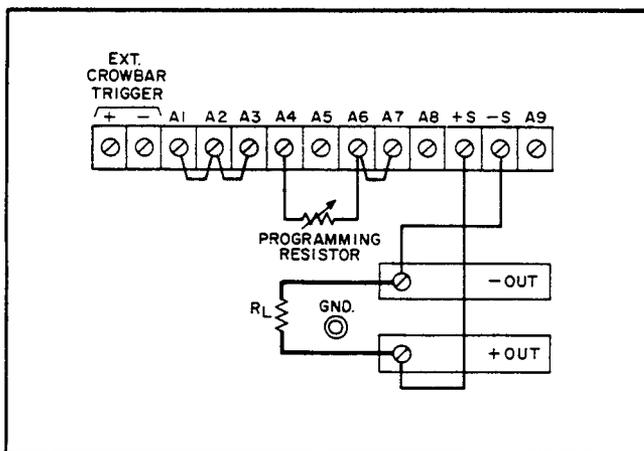

Figure 3-7. Resistance Programming of Output Current
**3-45 Constant Current Output, Resistance Input.** The rear panel connections shown in Figure 3-7 allow the output current to be varied by using an external resistor to program the supply. The supply's constant current programming current, which is factory adjusted to 2.5mA  $\pm$ 10%, determines the exact value of its programming coefficient. The programming coefficients for the supplies included in this manual are as follows: